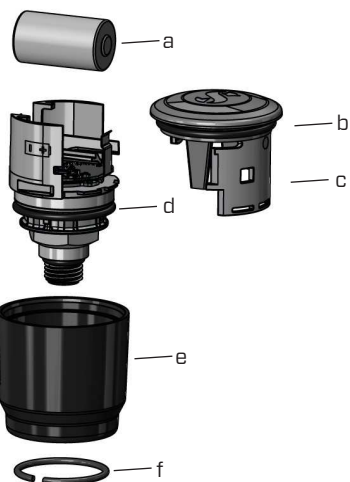

Fig. 2
- Remove the lock ring with a pair of ring pliers. (Fig. 2-f)
- Slide the outer sleeve downwards. (Fig. 2-e)
- Remove the transmitter lower and upper O-Ring. (Fig. 2-b & d)
- Slide the lid to the side (Fig. 2-c)
- Remove the battery. (Fig. 2-a)